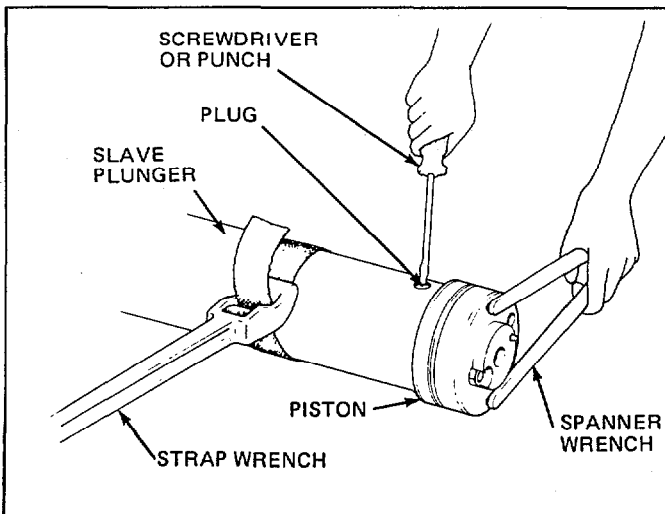

Figure 11. Remove the Piston from the Plunger
4. To remove the piston, depress the plug protruding through a hole at the base of the master plunger with a screwdriver or a punch. See Figure 11. Use a spanner wrench to unscrew and remove the piston from the plunger. You may need a helper to hold the plunger with a strap wrench. NOTE: When you have turned the piston the first 180°, use your screwdriver or punch to prevent the plug from snapping into the hole on the other side of the plunger. Be prepared to catch the sequence valve plug, spring, spacer, and ball when you remove the piston from the plunger.
6. To remove the slave plunger piston, depress the plug protruding through the hole near the base of the slave plunger with a screwdriver or a punch. See Figure 11. Use a spanner wrench to unscrew and remove the piston. Also remove the sequence valve rod and component pieces at this time.
16. Screw the piston into the master plunger. As the piston is threaded on, the plug will snap into one of the two holes in the plunger. Use a screwdriver or punch to push the plug in and keep turning the piston until it seats. Then back off no more than 1/2 turn until the plug snaps into one of the holes. See Figure 11.